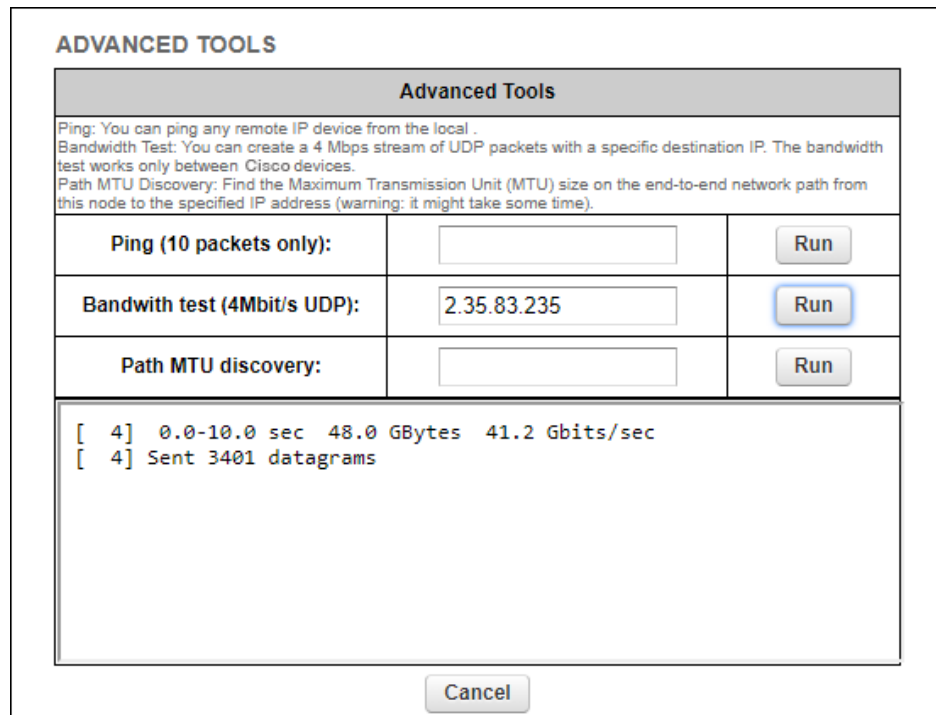

Figure 26. Advanced Tools window (Bandwidth test tool)
2. Enter the IP address of the other unit in the **Bandwidth test (4Mbit/s UDP):** field (Figure 26 (page 64)).